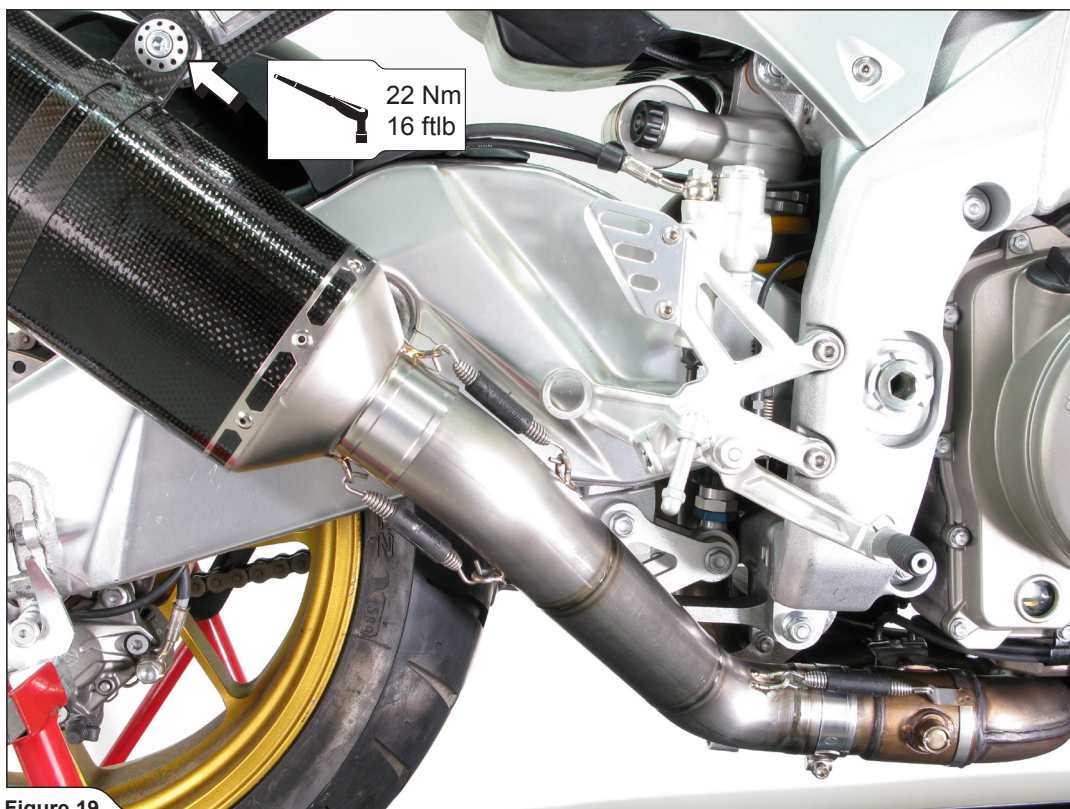

Figure 19
10. Align the muffler in respect to the motorcycle and tighten the muffler clamp using Akrapovič bolt, washer and aluminium distance bush with stock spacer bush and nut as shown in figure (**Figure 19, 20**).